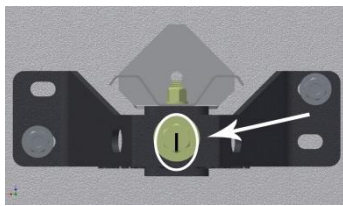

Figure 3
1. Place a line using a marker on the top of the bolt. (Figure 3)